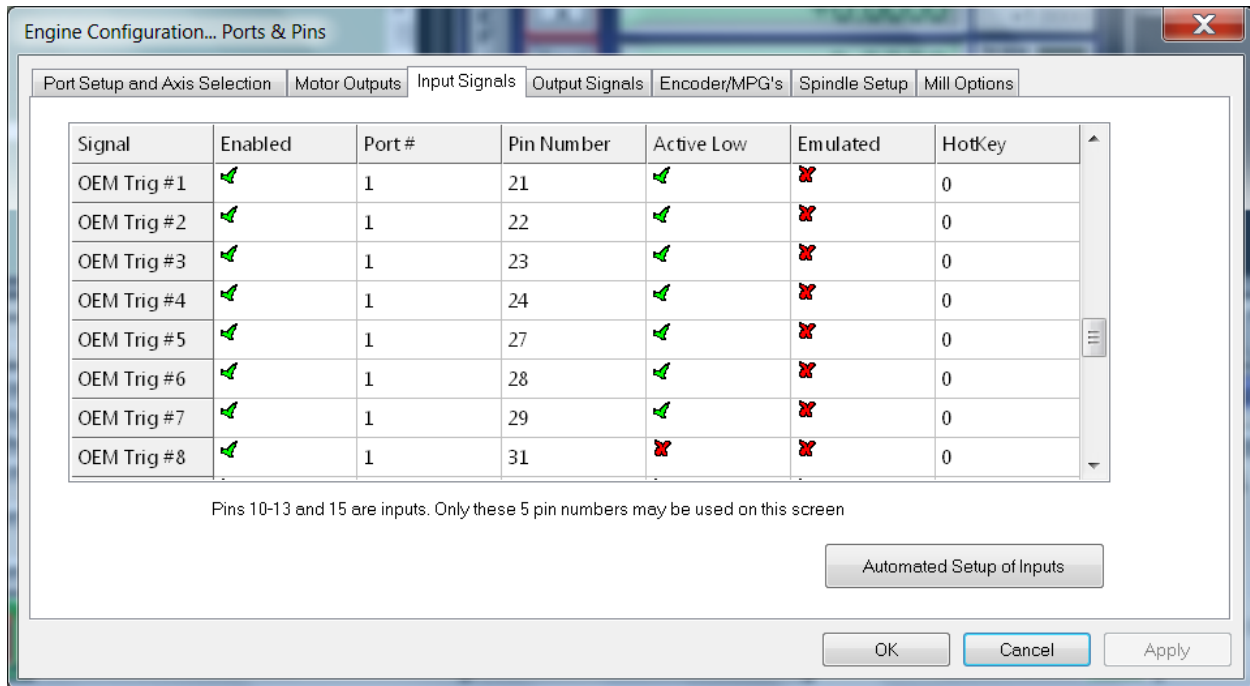

Figure 3.4 Example of setting up input pins for OEM input signals that are used for pendant functionality
- Pendant axis selector – enables setting up the functionality of the axis selector. Maximally a 6 switch positions are supported. Using OEM input# field it is possible (if needed) to change which OEM input signals are used for each switch position. Pin and port for digital inputs for these OEM signals can be set up using Mach3 Ports&Pins input configuration dialog (Figure 3.4).